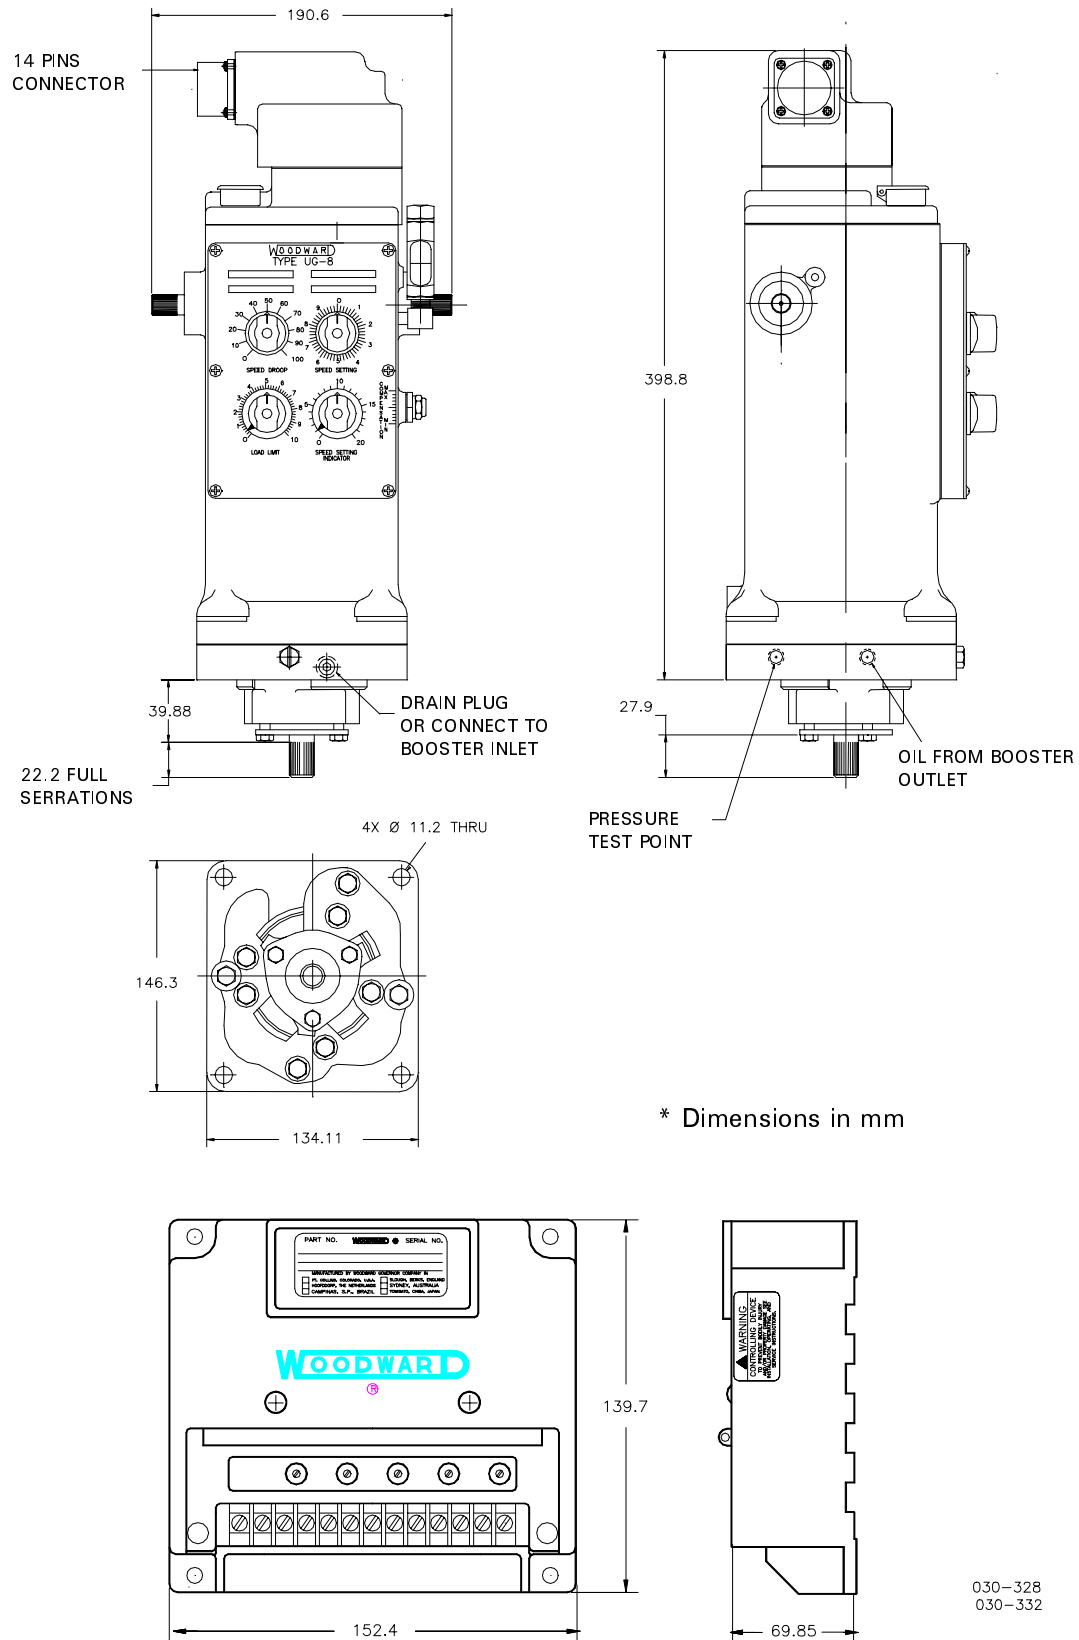

Figure 2-7 Outline Drawing UG MAS Governor and UG MAS Driver Box
For dimensions of the UG MAS driver box see outline drawing Figure 2-7.
- See Figure 2-7 Outline Drawing for dimensions.